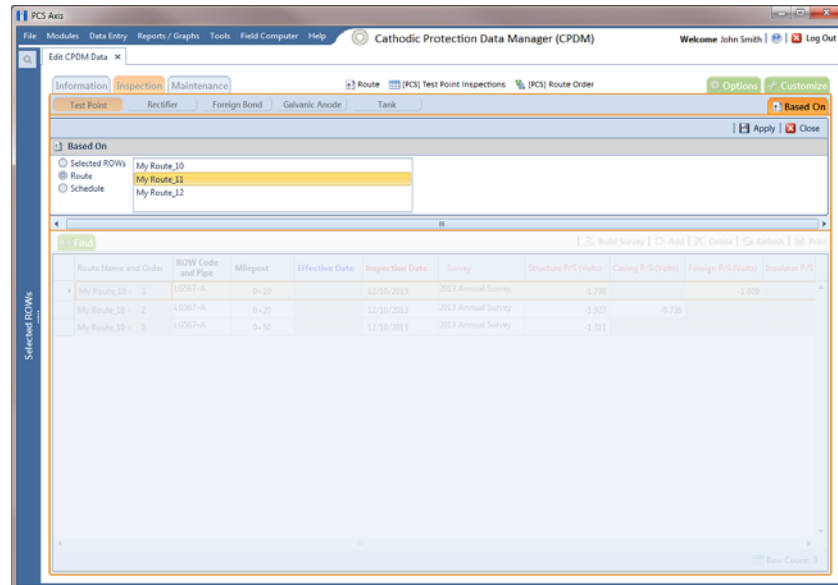

Figure 7-34. Based On Route
- a Click the **Based On** tab  to open the based on panel and then complete the following steps (Figure 7-34):